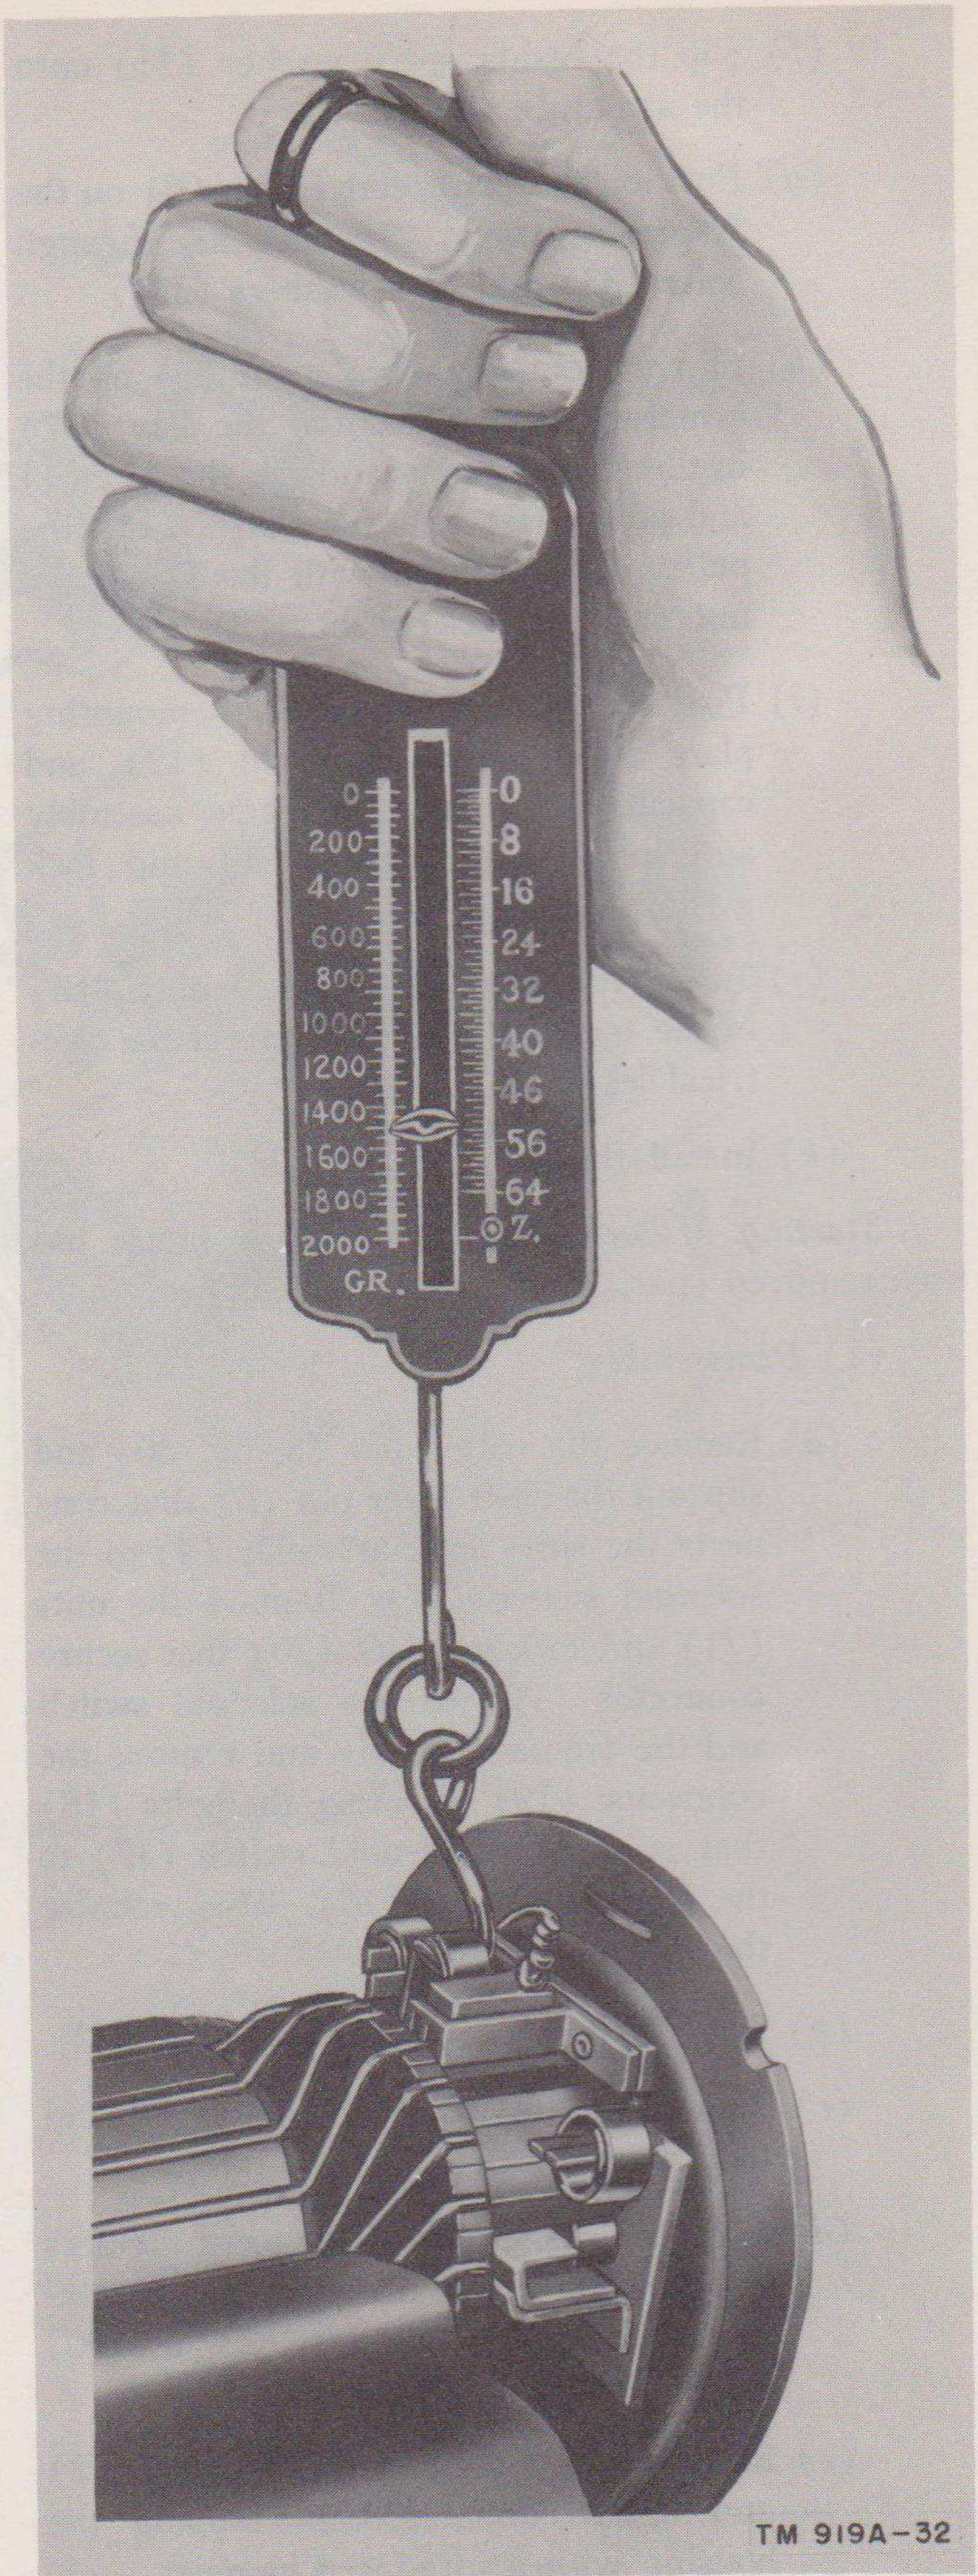

Figure 32. Measuring brush spring tension (starting motor).
3. To check the tension of the brush springs, hook a scale under the brush spring near the brush and pull on a line parallel with the side of the brush, as shown in figure 32. Take the reading just as the spring leaves the brush. The brush spring tension should be between 1.5 and 1.75 pounds (24 to 28 ounces). If the brush spring tension is too low, a loss of efficiency will be caused by poor brush contact. If the tension is too great, the commutator and brushes will wear excessively and have short life. It is important, therefore, that the brush spring tension be kept within the specified limits. To change the spring tension, use long-nosed pliers and twist the spring at the holder.